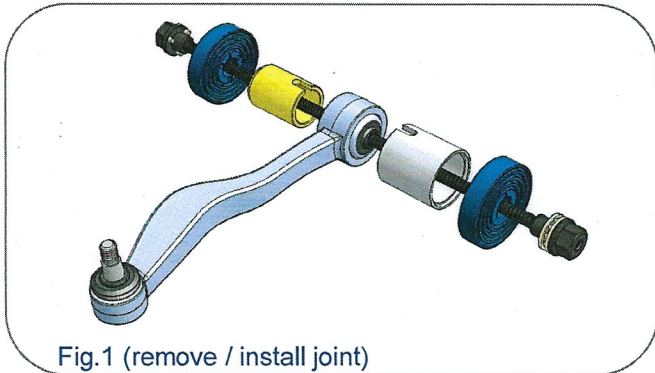

Fig.1 (remove / install joint)
- Step 1: Connect suitable spindle, plates, and sleeves one after one. (fig.1)